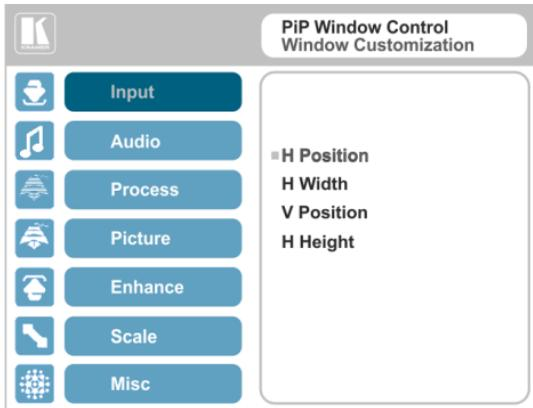

Figure 10: Window Customization
2. Select Window Customization (see Figure 10).